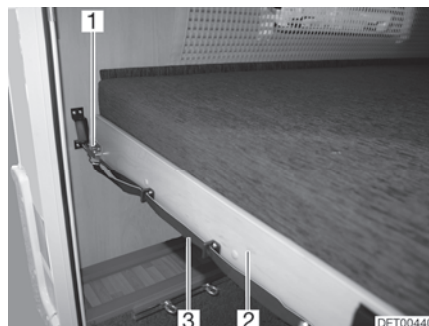

Fig. 74 Bunk bed (rear)
- Pull on the loop (Fig. 74,3) and release the latch (Fig. 74,1).
- Pull the slatted frame (Fig. 74,2) together with the mattress forward until it latches in place.